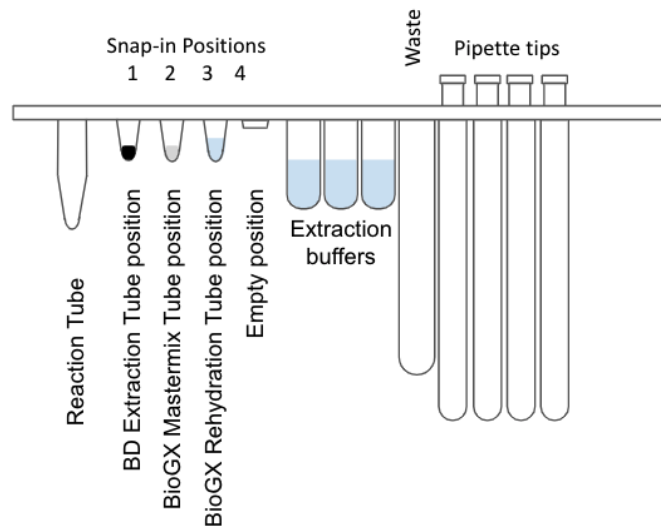

Figure 1. Diagram of BD MAX™ ExK™ 4-snap Unitized Reagent Strips.
3. Snap one BD MAX™ ExK™ TNA Extraction tube into snap-in position 1 (Snap-1) of each extraction strip (**Figure 1**).